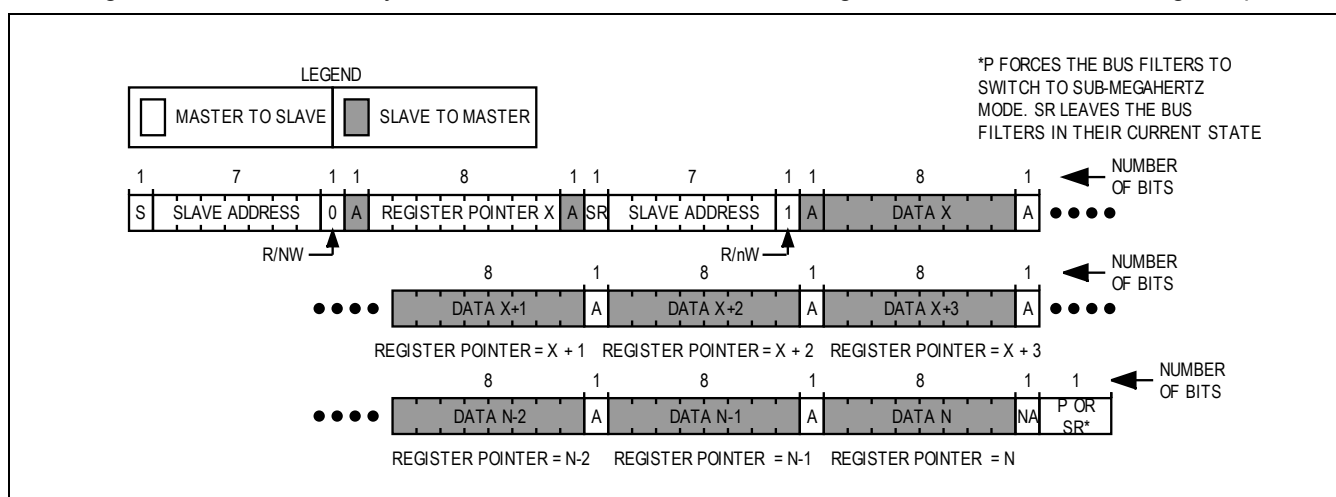

Figure 39. Reading Continuously from Sequential Registers X to N
Figure 39 shows the protocol for reading from sequential registers. This protocol is similar to the read byte protocol except the master issues an acknowledge to signal the slave that it wants more data: when the master has all the data it requires it issues a not acknowledge (nA) and a stop (P) to end the transmission.